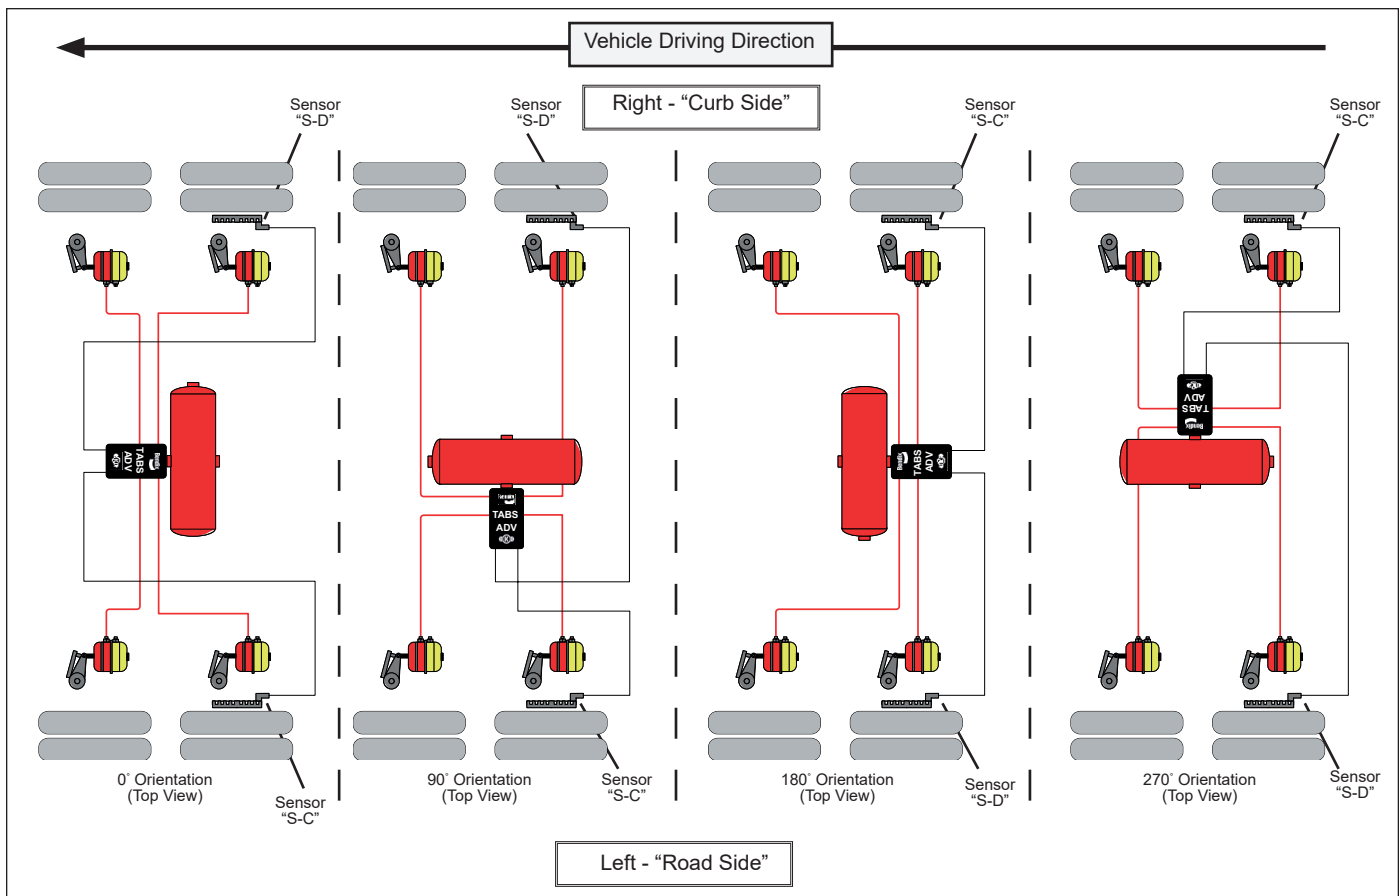

Figure 17 – Wheel Speed Sensor (WSS) Installation
NOTE: The WSS must follow the orientation of the module as *shown in Figure 17* for fixed-axle trailers.
- Care should be taken to ensure the WSS location matches the ECU orientation in *Figure 17*. If this is not the case, a DTC will be generated and the Bendix ABS indicator lamp will be illuminated.